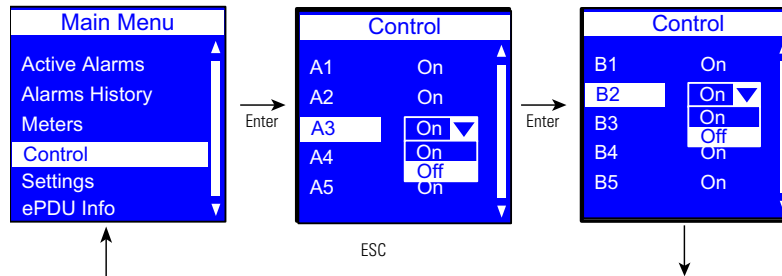

Figure 65. Example Control Submenu Display
For Switched (SW) and Managed (MA) ePDUs only. On the Main Menu, scroll up or down to highlight **Control**. Press **ENTER**. Scroll up or down to see a list of outlet group IDs. Select an outlet group. The On/Off drop down list displays. Select On or Off. The selected state of the outlet displays. Scroll up or down to see other lists of outlet group IDs (if available). Press **ESC** to return to the previous menu (see Figure 65).